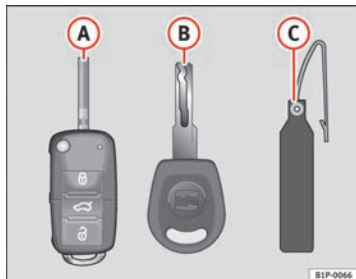

Fig. 63 Set of keys
- one remote control key ⇒ fig. 63 **A** with folding key bit,